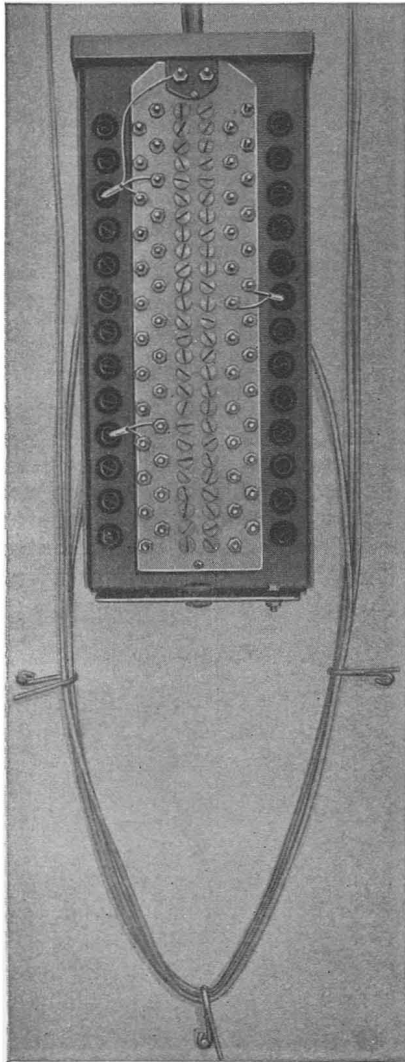

FIG. 9—TYPICAL STATION WIRING OF NH-TYPE TERMINAL.
7.04 The NH-Type Terminal is equipped with 107C protectors which provide fuseless station protection, and therefore its use is restricted to areas served by grounded metal sheath cable. Where 1094A protectors (60-type fuses) are required in connection with NH-type terminals, they should be installed adjacent to the terminal. A wired NH-type terminal is shown in Fig. 9.